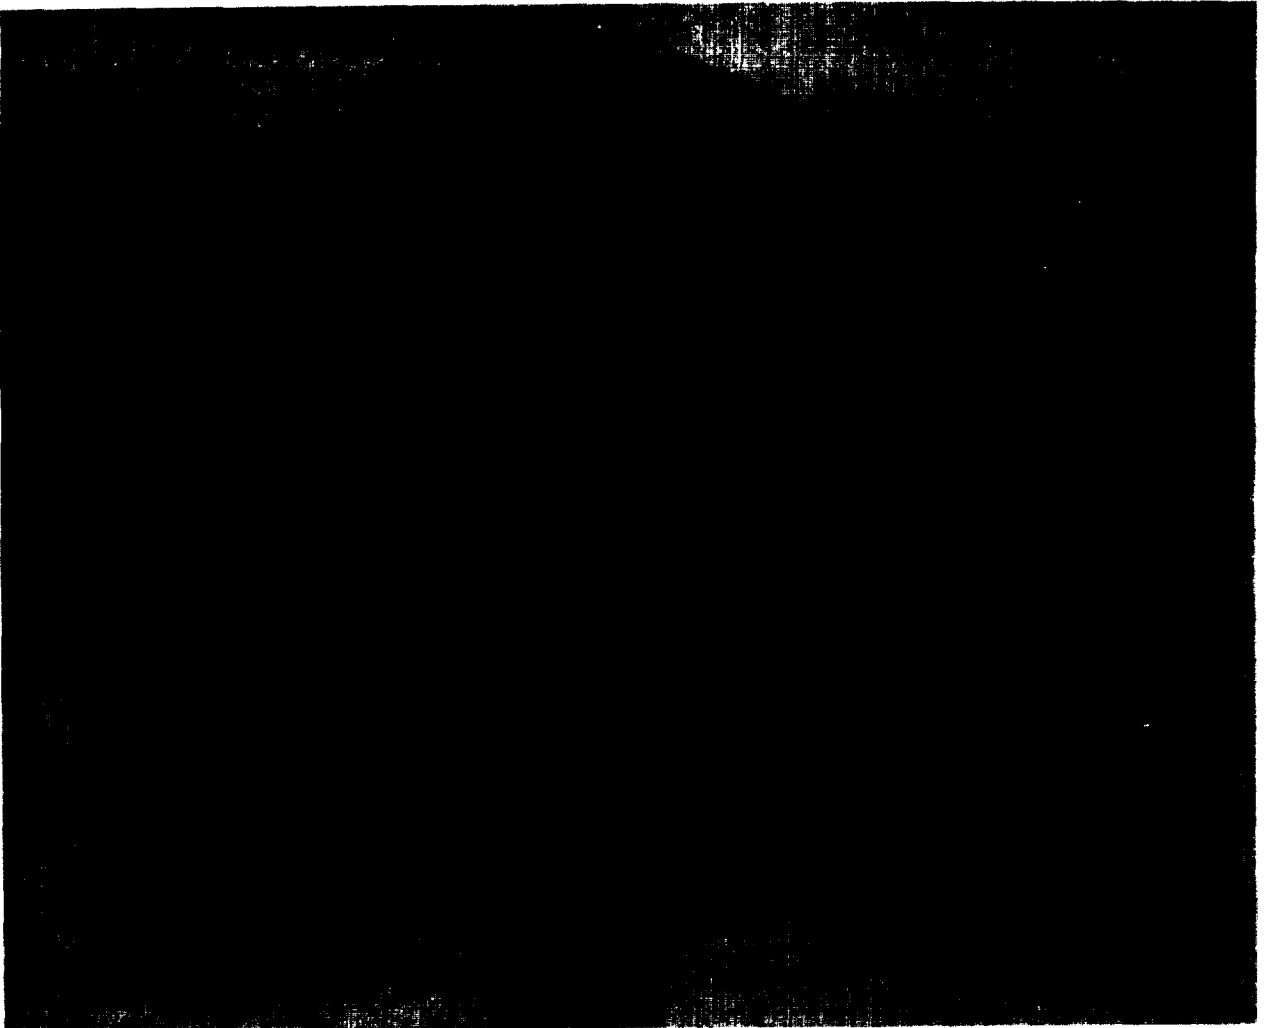

Figure 2-7. Chronograph showing rear panel controls and indicators.
LEAKAGE ADJUSTMENT controls 1 and 2	These controls are used in combination and are adjusted to minimize the amount of transmitted energy entering the receiving circuits. When the MONITOR SELECTOR switch (fig. 2-7) is set to LEAKAGE and these controls are adjusted properly, the MONITOR meter (fig. 2-7) will indicate in the green region of its scale.
(1) Start generator engine and adjust generator for an output of 115 volts at 400 cycles per second.
(2) Set chronograph POWER switch (fig. 2-7) to ON and note that power lamp lights and blowers operate. Allow a minimum warmup period of five minutes before making further adjustments.
(3) Set chronograph MONITOR SELECTOR switch (fig. 2-7) to LINE position and then to B+ position, noting that in both positions the meter needle falls close to red line (70) in the middle of the green region (A, fig. 2-16).
(4) Set chronograph MONITOR SELECTOR switch (fig. 2-7) to LEAKAGE position.
(6) Set MONITOR SELECTOR switch (fig. 2-7) to AGCV position and set VELOCITY SELECTOR switch (fig. 2-7) to the lowest range (70-325). AGC voltage reading on MONITOR meter (A, fig. 2-16) should be near red line.
(7) Set MONITOR SELECTOR switch (fig. 2-7) to SIGNAL Position. Check that the MONITOR meter reading is less than 20 (providing another indication that the leakage signal is properly reduced).
SET lamp lights and digital indicators (fig. 2-7) show 0000.0.
(10) Set up for anticipated calibrating reading by setting VELOCITY selector switch (fig. 2-7) to 925-1150 position.
(11) Momentarily place CAL 1-OPER-CAL 2 switch (fig. 2-7) in CAL 2 position and note that digital indicators read between 1070.0 and 1070.7 and that MONITOR meter needle is deflected into the green region (between 80 and 90).
(12) Depress RESET switch (fig. 2-7) and note that RESET lamp lights and digital indicators read 0000.0.
(13) Momentarily place CAL 1-OPER-CAL switch (fig. 2-7) in CAL 1 position and at the same time tap microphone sharply. Note that digital indicators read between 1070.0 and 1070.7 and that MONITOR meter needle is deflected into the green band. (This checks the microphone and associated circuitry.)
(6) Reel out sufficient microphone cable to connect, test receiver to CARR simulator HORN OUTPUT CONNECTOR.
(7) Connect jumper cable ends (fig. 1-16) to MICROPHONE input connector (fig. 2-7) and CARR simulator CHRONOGRAPH INPUT CONNECTOR.
(8) Turn on chronograph and prepare for normal operation.
(5) Set MONITOR SELECTOR switch (fig. 2-7) to SIGNAL position and adjust LEAKAGE controls for a MONITOR meter reading of less than 20. It may be necessary to readjust the LEAKAGE controls so that the LEAKAGE position reads in the green band while the SIGNAL position reads less than 20.
(7) MONITOR meter (fig. 2-7) should indicate a SIGNAL reading in green band or higher.
(8) Set DELAY selector switch (fig 2-7) to 1 position and depress RESET switch. RESET lamp should light and digital indicators show 0000.0.